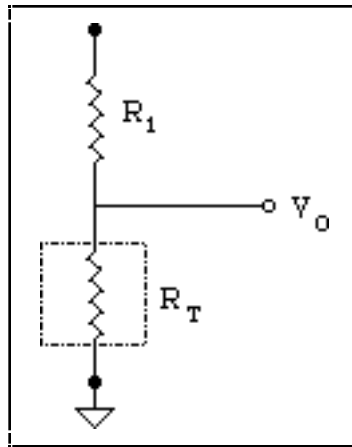

Figure D-2. Circuit Diagram of a Thermistor in a Voltage Divider
**Vref** is the voltage reference you apply across the thermistor circuit (see Figure D-2). The thermistor on the SCXI terminal blocks has a **Vref** of 2.5 volts.
**R1** is the value expressed in Ohms of the resistor in series with your thermistor (see Figure D-2). The thermistor on the SCXI terminal blocks has an **R1** value of 5000 Ohms.
The thermistor conversion routines use the following equation, which expresses the relationship between **Volts** and  $R_t$ , the thermistor resistance (see Figure D-2).